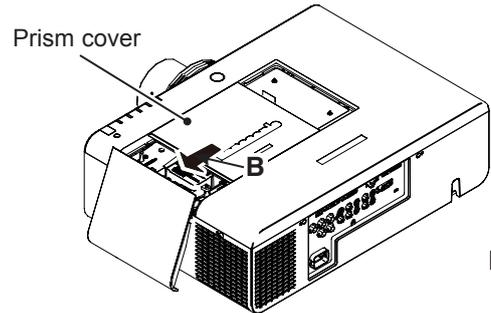

Fig. 2
- 2** Loosen 1 screw-B on the prism cover and slide it in the arrow direction (Fig. 2).